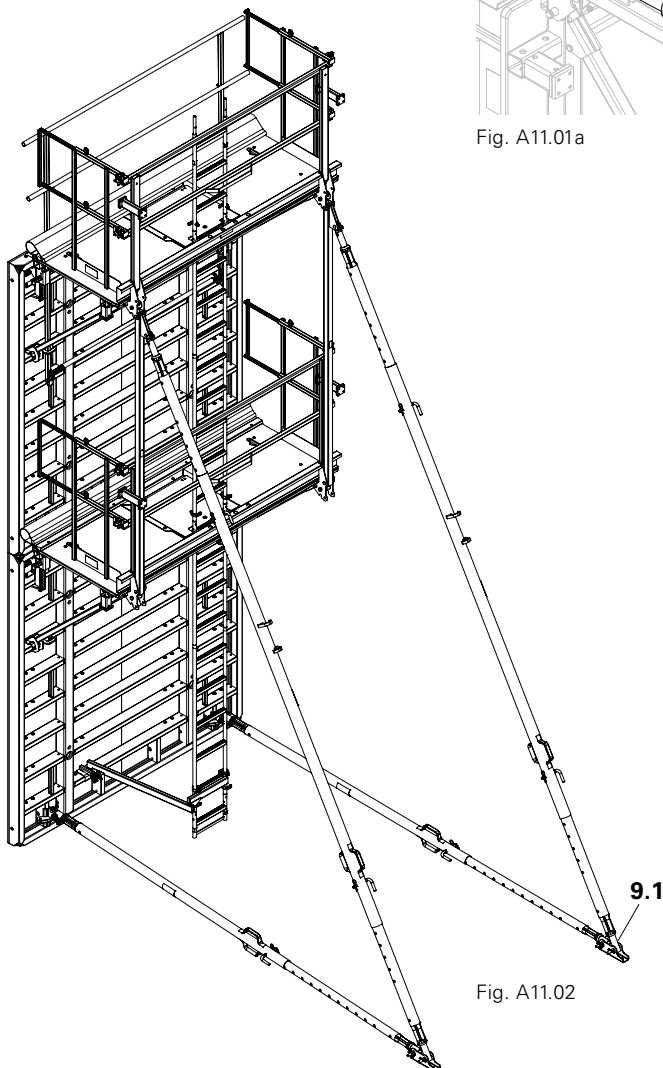

Fig. A11.02
3. After erection, push-pull props are mounted via base plates with dowels, for example, with Anchor Bolt PERI 14/20x130 or equivalent. Remove Erection Device MXP and align the panel unit. (Fig. A11.02)